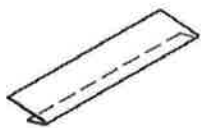

Fig. 5
- Couple the ends with fabricated Couplers, Fig. 5, centered over an end joint.